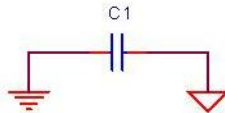

FIGURE 5
5) Add a small value high voltage capacitor above 1 KV working volts between primary and secondary ground (Figure 5).